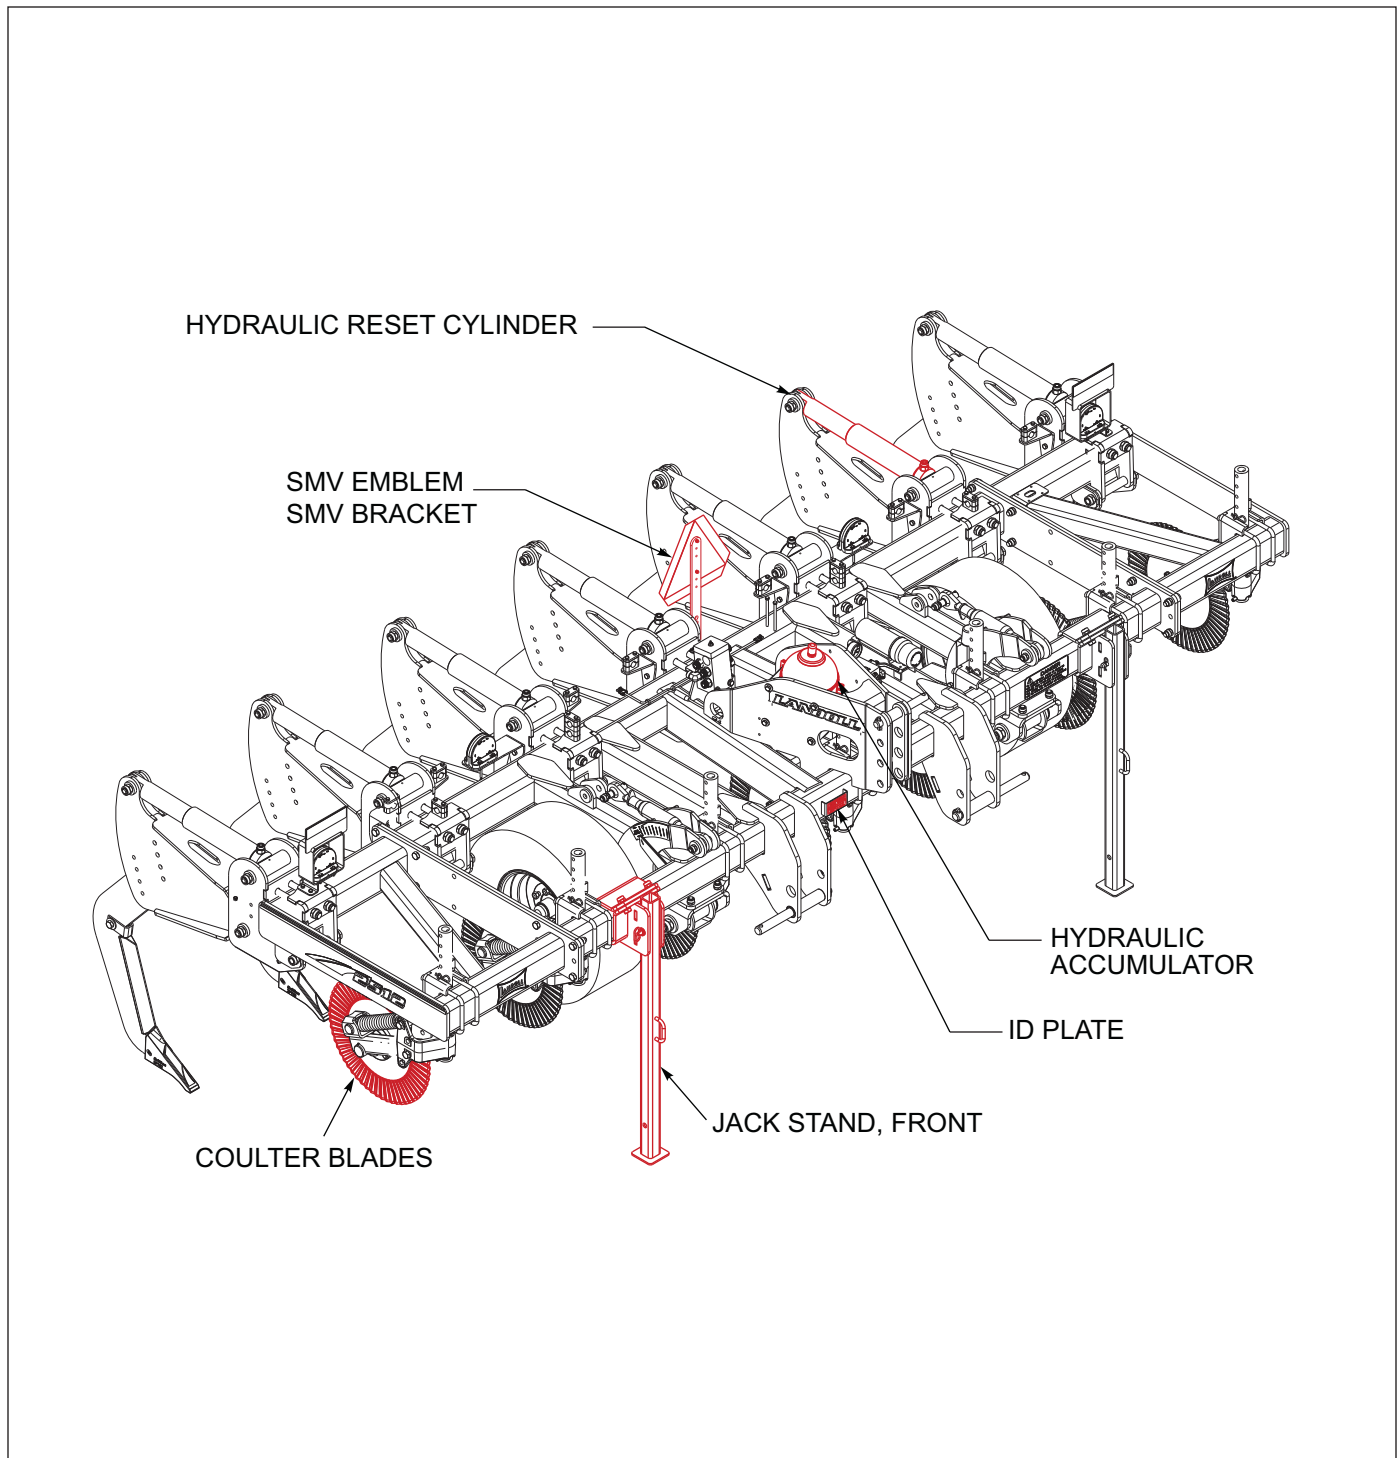

Figure 3-3: 2512 Series Parts Identification
1. Attach the SMV mounting bracket at a point where emblem is visible from rear of machine, using U-Bolt and 5/8-11 Flange Head Serrated Nuts (See Figure 3-3.)